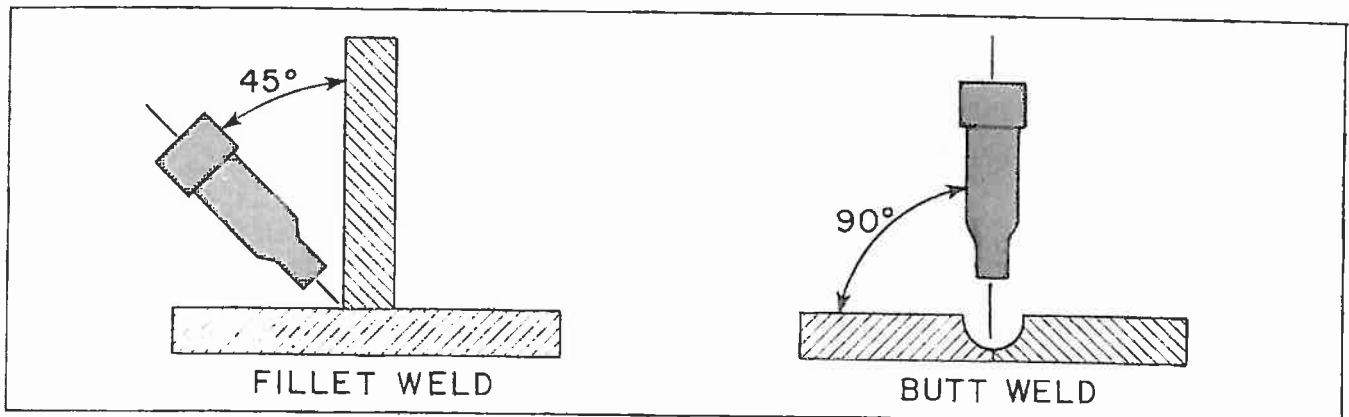

Fig. 8 - Angle of Welding Wire with Joint
4. The welding wire should be pointed into the joint at angles of approximately 45° for fillet welds, and approximately 90° for butt welds, (Fig. 8).